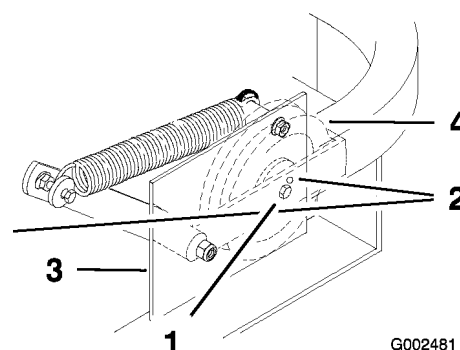

Figure 48
Important: Check and make sure the belt is installed into both the front and rear belt guides (Figure 48).
4. Check the belt tension. The spring loaded idler center bolt needs to be near the top alignment hole in left support plate (Figure 48).